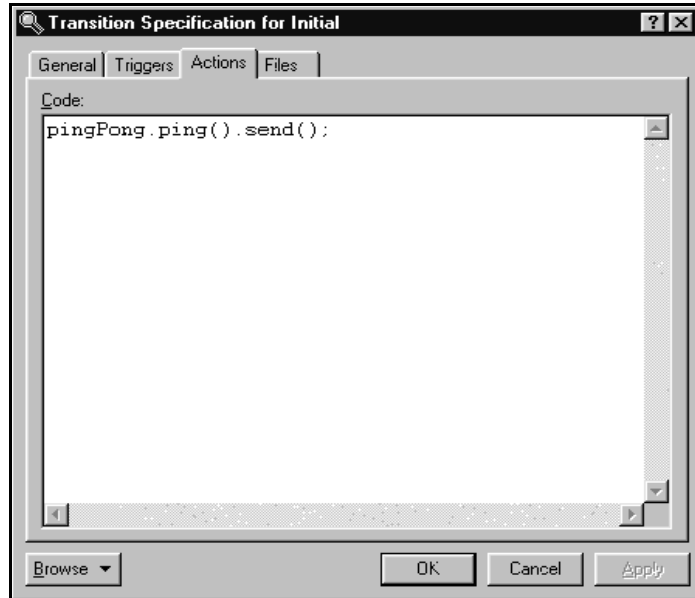

Figure 19 Adding code to a transition
7. Type in the following code, and then click the **OK** button (see Figure 19).